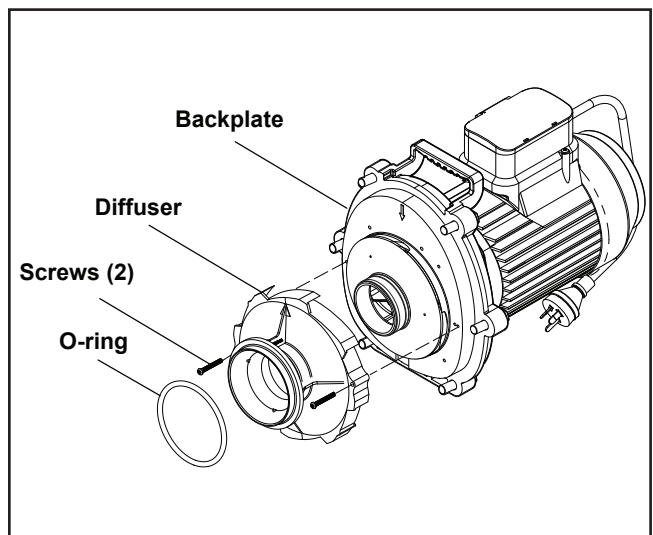

Figure 14. Remove the Diffuser
5. Using a No. 1 Phillips screwdriver, remove the two (2) screws holding the diffuser. (The diffuser is the cover over the impeller.) Then remove the diffuser (See Figure 14).